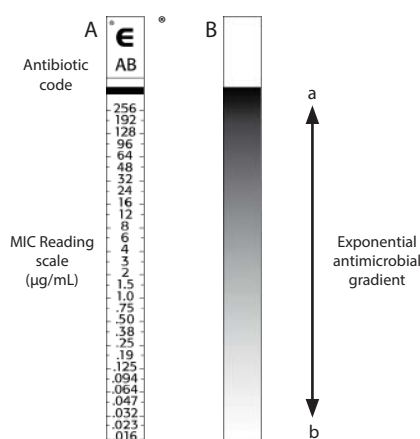

Figure 1: Etest gradient configuration
Etest is a thin, inert and non-porous plastic strip. One side of the strip (A) carries the MIC reading scale in µg/mL and a two or three-letter code on the handle to designate the identity of the antibiotic. A predefined exponential gradient of antibiotic, dried and stabilised, is immobilised on the other side of the strip (B) with the concentration maximum at **a**, and the minimum at **b** (Figure 1). The gradient covers a continuous concentration range across 15 two-fold dilutions of a conventional MIC method.
- When handling Etest strips manually, grip only the handle of the strip i.e. the area labelled E. **Do not touch the surface of the strip with the antibiotic gradient, i.e. the side opposite the MIC scale (Figure 1, B).** Strips can be placed in an applicator tray until ready to use (Figure 3). A manual applicator (e.g., Mini Grip-It, forceps or similar device) or the vacuum pen Nema C88™ (bioMérieux) can be used to efficiently pick up Etest strips (Figures 3 & 4). The foam cartridges carrying the Etest strips should be directly loaded onto the automatic applicator instrument Simplex C76™ (bioMérieux).